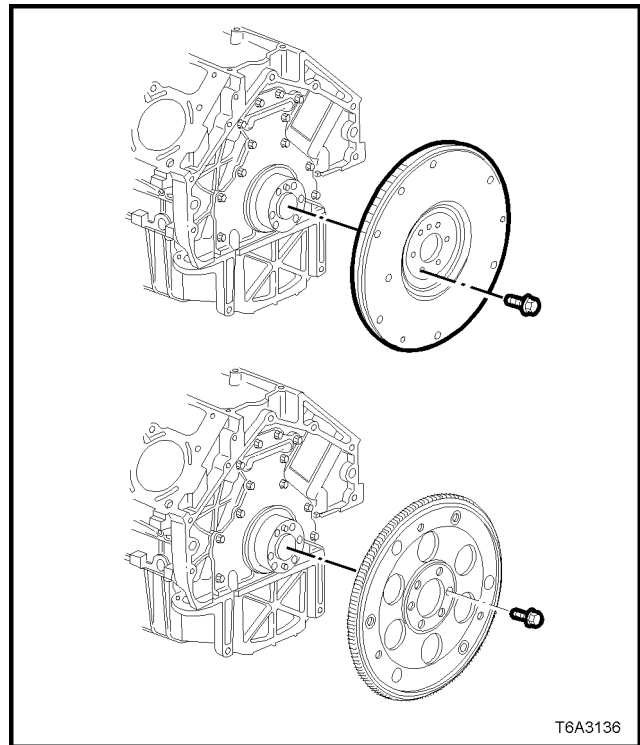

Figure 6A3-225
3. Loosely install NEW flywheel/flexplate bolts, tightening in the sequence shown in Figure 6A3-227, to an initial torque specification of 20 Nm.